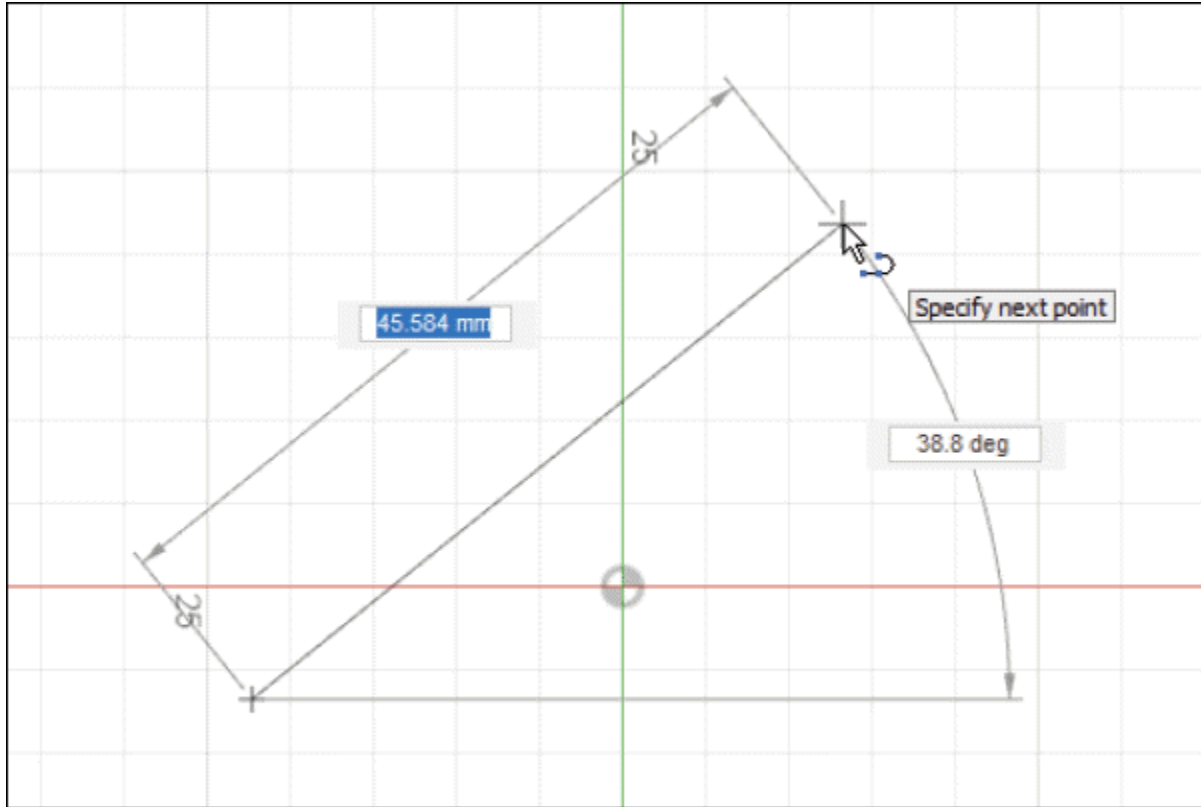

Figure-5. Creating the line
- Specify desired value of length in the **Length** input box. Press **TAB** key to toggle to **Angle** input box; refer to Figure-5.